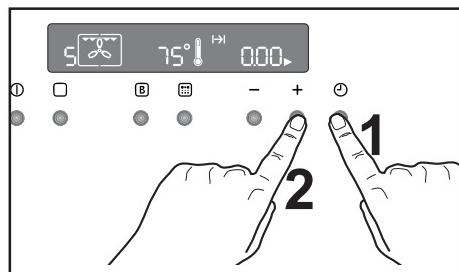

Fig. 9
2. Press button to select the "Cooking Duration" function (Fig. 9). The "Cooking Duration" symbol will flash and the control panel will display "0.00". (Fig. 9).